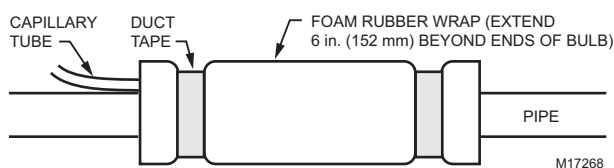

Fig. 19. Covering bulb and pipe with foam rubber insulation.
2. If necessary, cover the bulb and pipe with foam rubber insulation that extends at least 6 in. (152 mm) beyond both ends of the bulb. See Fig. 19.